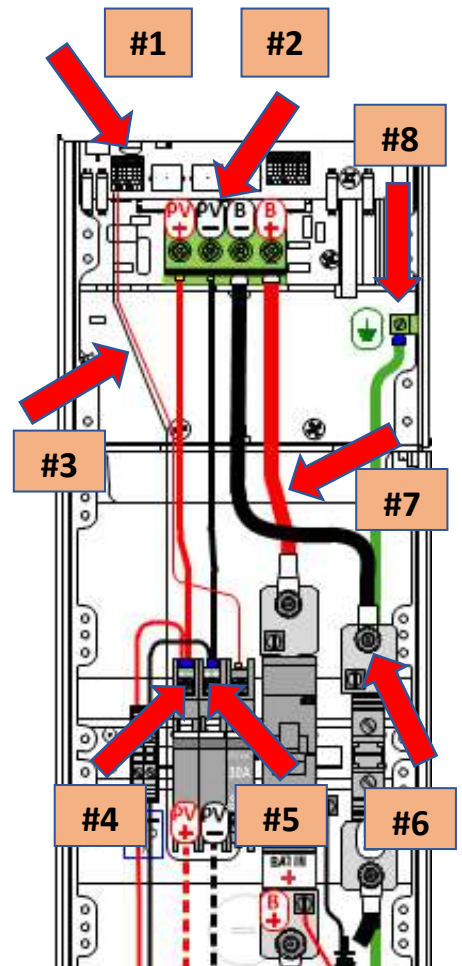

Figure 8
Ground Wire (Figure 8)
2. Insert pre-installed green ground wire into the Hawke's Bay equipment ground terminal (**Figure 8/#8**; also see **Figure 1**).